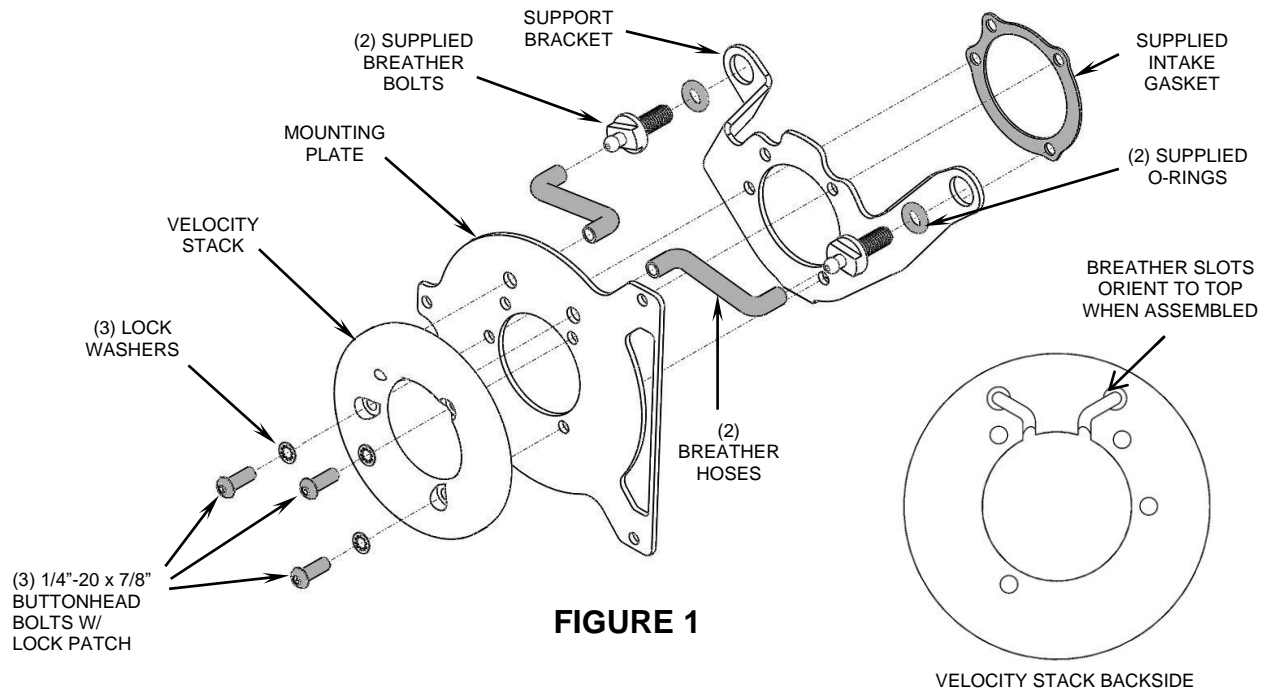

FIGURE 1
- Remove and discard the (2) stock breather bolts, (2) stock o-rings, and (2) stock breather hoses from the cylinder heads.
- Insert (3) supplied 1/4"-20 x 3/4" buttonhead bolts with lock washers through the mounting holes in the velocity stack and mounting plate. While holding that assembly together with one hand, insert the (2) breather hoses through the mounting plate and into the velocity stack with the hoses rotated outward, as shown in Figure 1. Make sure the hoses are bottomed out in the back of the velocity stack.
- Join together the assembly from Step 3 with the supplied support bracket and gasket then start threading the (3) buttonhead bolts into the throttle body, but do not tighten.